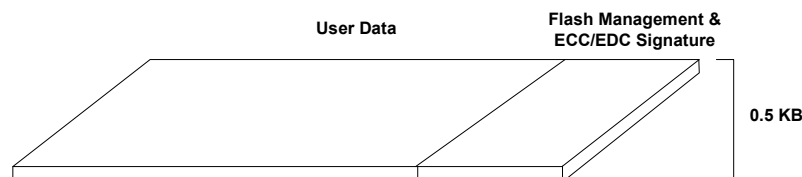

Figure 5: Page Structure
- **Page** – Each page contains 512 bytes of user data and a 16-byte extra area used to store flash management and EDC/ECC signature data, as shown in Figure 5. A page is the minimal unit for read/write operations.